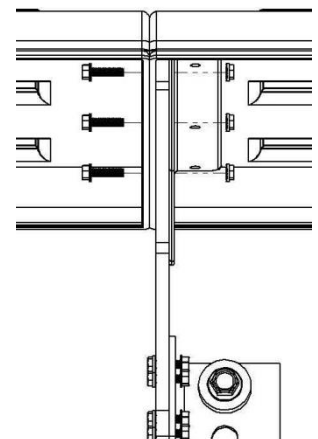

Figure 7
E. Install center bracket as close to where the two fenders join together as possible (Figure 7).